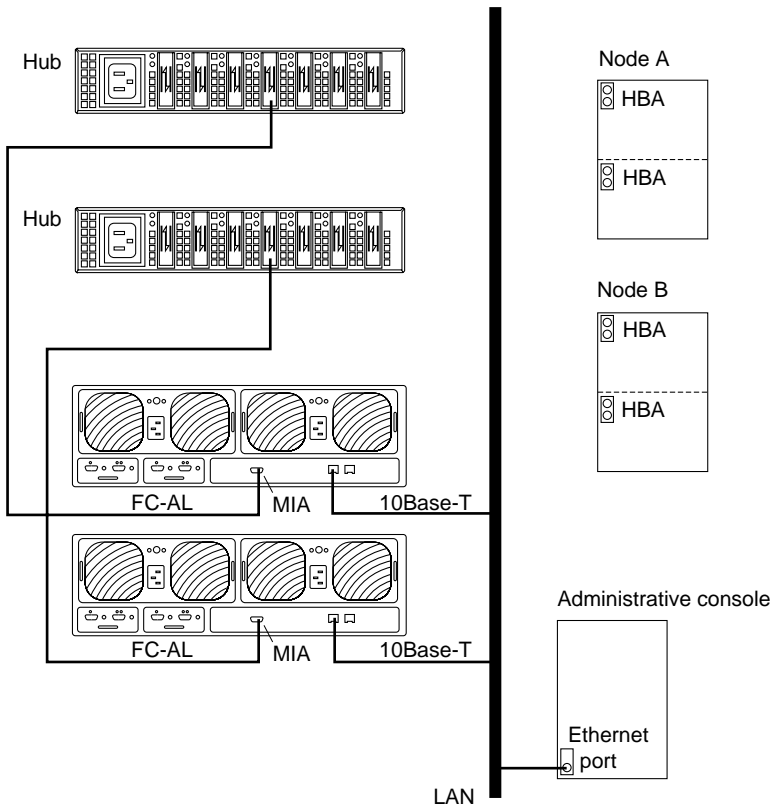

FIGURE 8-2 Adding a StorEdge T3 Disk Tray in a Single-Controller Configuration
2. **Install the media interface adapter (MIA) in the StorEdge T3 disk tray you want to add as shown in FIGURE 8-2.**
3. **If necessary, install a gigabit interface converter (GBIC) in the Sun StorEdge FC-100 hub as shown in FIGURE 8-2.**
4. **Install the 10Base-T Ethernet cable between the StorEdge T3 disk tray and the Local Area Network (LAN), as shown in FIGURE 8-2.**
8. Install a fiber-optic cable between the Sun StorEdge FC-100 hub and the StorEdge T3 disk tray as shown in FIGURE 8-2.
Note – Although FIGURE 8-2 shows a single-controller configuration, two disk trays are shown to illustrate how two non-interconnected disk trays are typically cabled in a cluster to allow data sharing and host-based mirroring.